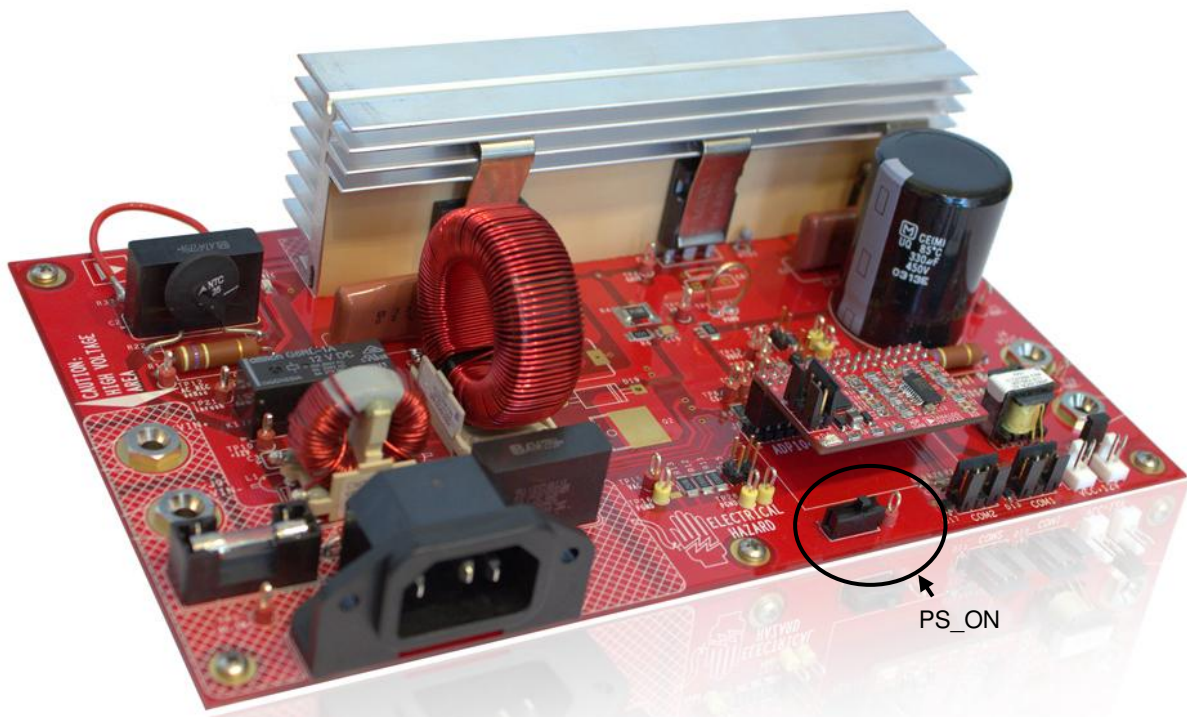

Figure 4 - 300W evaluation board showing PS\_ON hardware switch
- 2) Insert the daughter card in connector J6 as shown in Figure 4.
- 3) Ensure that the PS\_ON switch (SW1 on schematic) is turned to the on position. It is located on the bottom left half of the board (Figure 4).